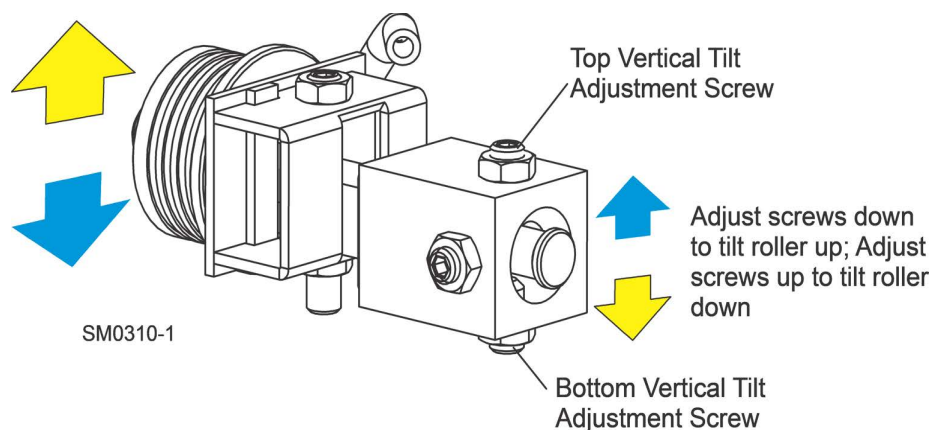

FIG. 5-5
7. Loosen one set screw at the side of the blade guide assembly. See FIG. 5-5.